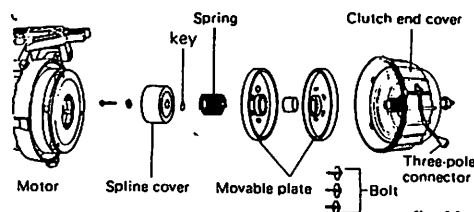

fig. 14
A) Motor disassembly (fig. 14)